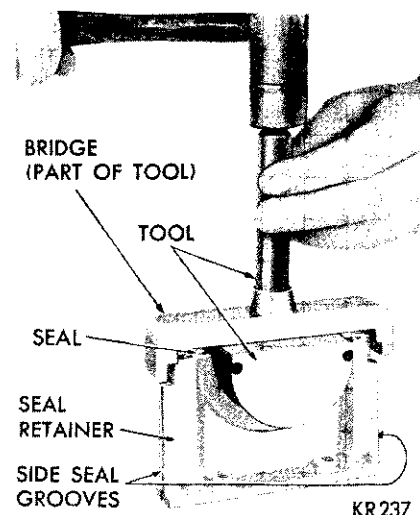
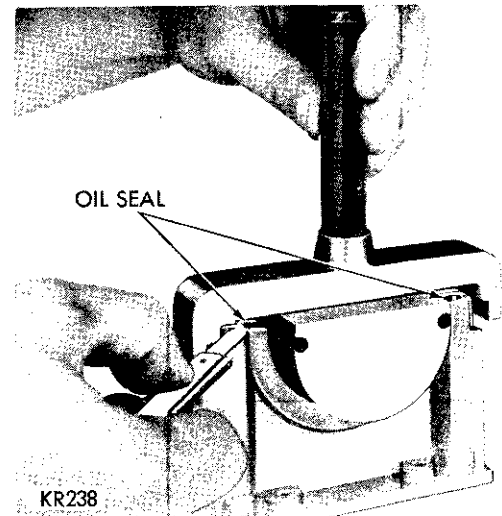

Fig. 48—Installing Rear Main Bearing Lower Oil Seal
Fig. 49—Trimming Rear Main Bearing Lower Oil Seal
- (1) Install a new seal in seal retainer so ends protrude (Fig. 48).
- (2) Install bridge on tool and tap the seal down into position with Tool C-3625 for 383 Cubic Inch Engines or Tool C-3743 for 440 Cubic Inch Engines until tool is seated.
- (3) Trim off that portion of the seal that protrudes above the cap (Fig. 49).